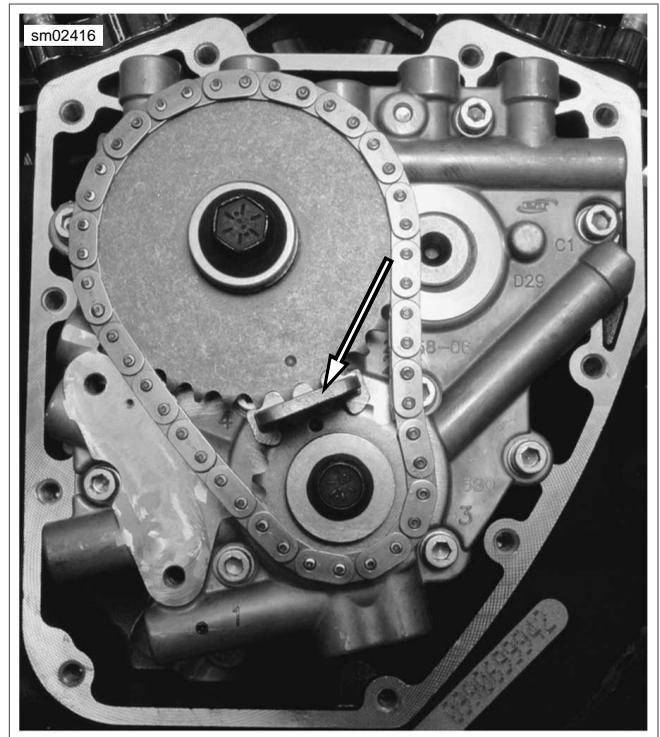

Figure 3-63. Camshaft Locking Tool
- c. See Figure 3-63. To prevent rotation, position the CRANKSHAFT/CAMSHAFT SPROCKET LOCKING TOOL (Part No. HD-47941) between the crank and primary cam sprockets. The handle of the tool is stamped "Crank" and "Cam" to ensure proper orientation. Tighten the crank and primary cam sprocket flange bolts to 15 ft-lbs (20.3 Nm). Remove the sprocket locking tool.